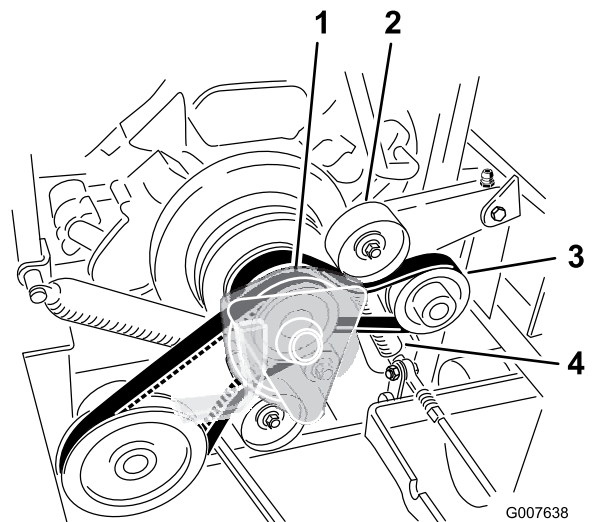

Figure 65
3. Remove the spring from the idler arm (Figure 65).
4. Install the new belt around the engine and hydraulic pump pulley (Figure 65).
6. Install the spring to the idler arm (Figure 65).